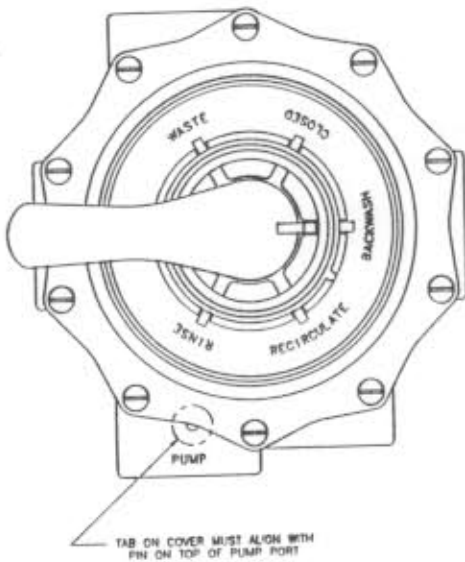

Figure 1—Cover alignment
4. Align cover pin (see Figure 1) and install new cover and plug. Press down on cover to allow bolts to engage nuts; tighten each bolt securely.
9. Make sure tab on valve cover aligns with pin on top of pump part, (see Fig. 1). Press down on cover to allow bolts to engage nuts. Tighten each bolt securely.